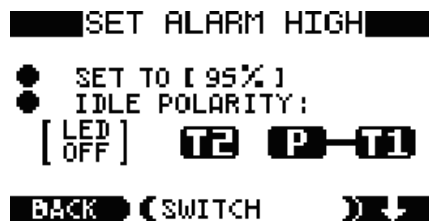

Figure 9: High Alarm Enable/Disable
- 2iv) Use the right-hand button labelled with an arrow to scroll through the menu. Highlight “SET ALARM HIGH” or “ALARMS”, “ENTER” then scroll to highlight “SET ALARM HIGH” then or press the central ENTER button. This brings up the set alarm high menu (shown in Figure 9)
- 4iv) Use the right-hand button labelled with an arrow to scroll through the menu or “ALARMS”, “ENTER” then scroll the ALARMS menu to highlight “SET ALARM LOW”. Highlight SET ALARM LOW then press the central ENTER button. This brings up the set alarm low menu (shown in Figure 9)